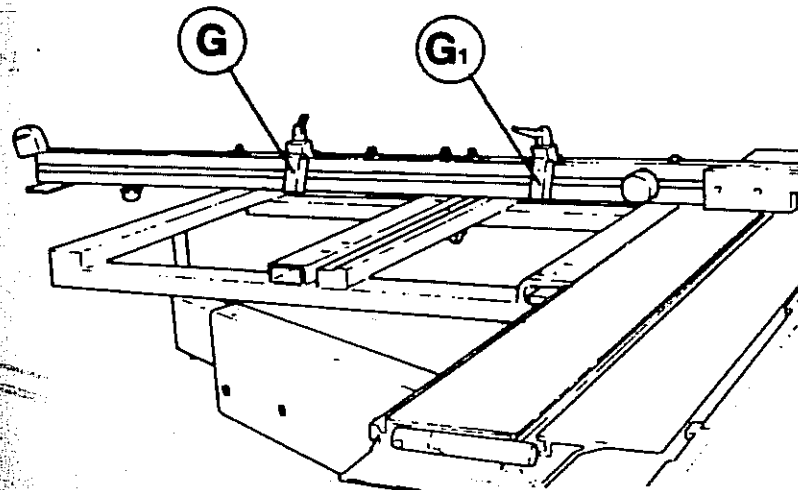

Fig.9
- 3) Fit stops (G and G₁ fig.9)